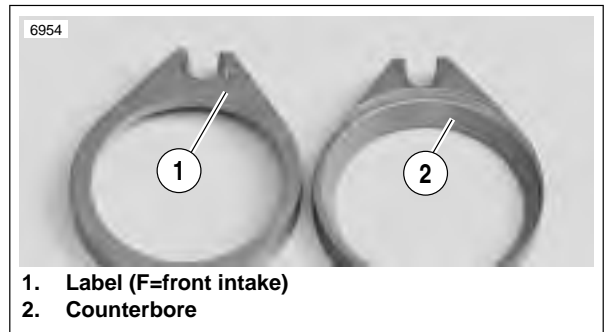

Figure 4-111. Intake Flanges
1. See Figure 4-111. Install front and rear intake flanges onto throttle body with the counterbore facing out. Each intake flange is labeled and the pieces are not interchangeable.